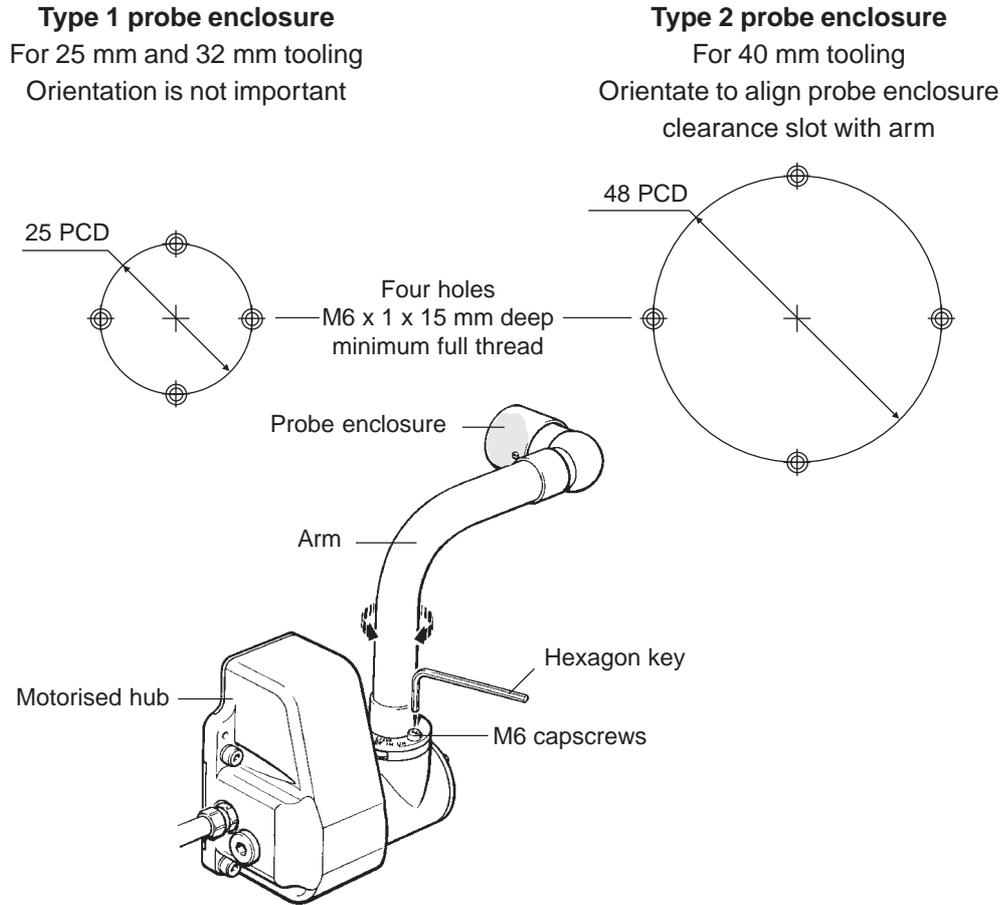

Figure 4 - Probe enclosure and arm rotation
7. Loosely secure the probe enclosure in position on the machine using the four M6 capscrews (supplied). Correct alignment of the probe enclosure to the probe can be achieved by rotating the arm (see figure 4). Tighten the probe enclosure screws to a torque of 12 Nm (106 lbf.in).
7. Loosely secure the probe enclosure in position on the machine using the four M6 capscrews (supplied). Correct alignment of the probe enclosure to the probe holder can be achieved by rotating the arm (see figure 4).